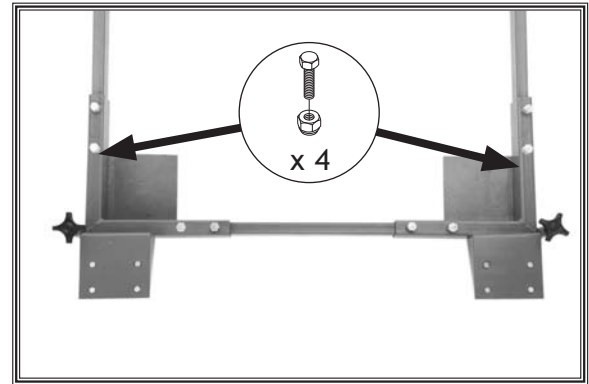

Figure 15. Rails fastened to brackets. (Machine removed from assembly for clarity.)
- Slide the other pair of rails into the ends of the corner brackets from **Step 5**, then fasten with (4) M8-1.25 x 25 hex bolts, and 8mm lock nuts, as shown in **Figure 15**.